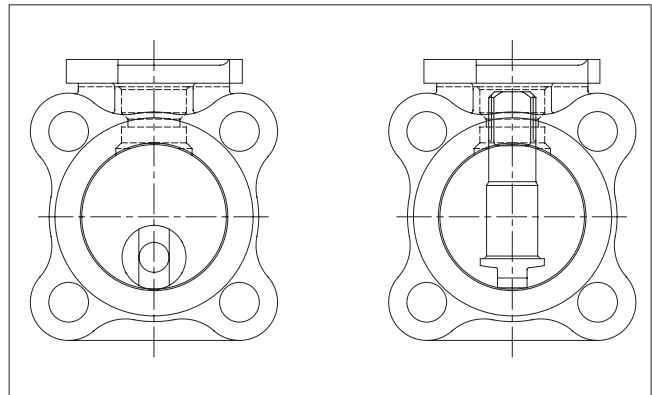

Figure 2.
2. Insert the stem (4) horizontally into the body bore (threaded end first). The blade at the ball end of the stem must be vertical **(see Figure 2)**. Guide the stem into the stem bore being careful not to scratch the bearings.